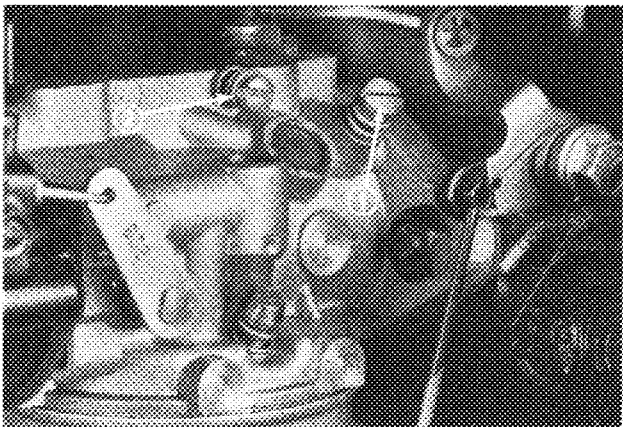

Figure 24
3. Pull firmly on choke cable and tighten cable clamp screw (Fig. 24).
1. **Idle Fuel Adjusting Needle** (Fig. 24) — Close needle by gently rotating it clockwise.
2. Rotate — open — the needle 1 turn counterclockwise (Fig. 24).